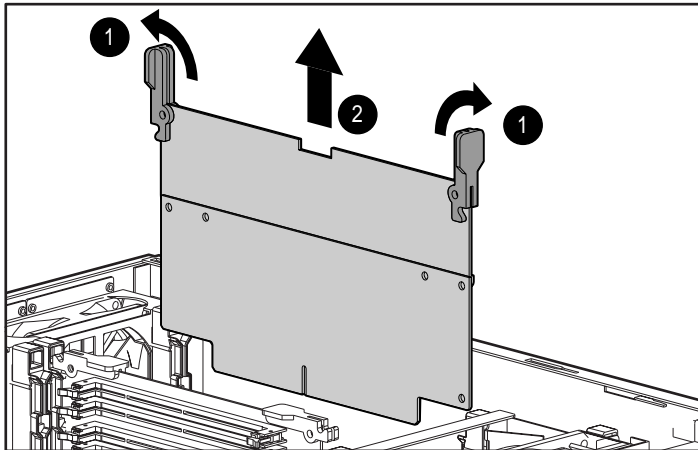

Figure 4-2. Removing the terminator board
- If adding a processor board, you must remove a terminator board in the processor slot as shown in Figure 4-2.